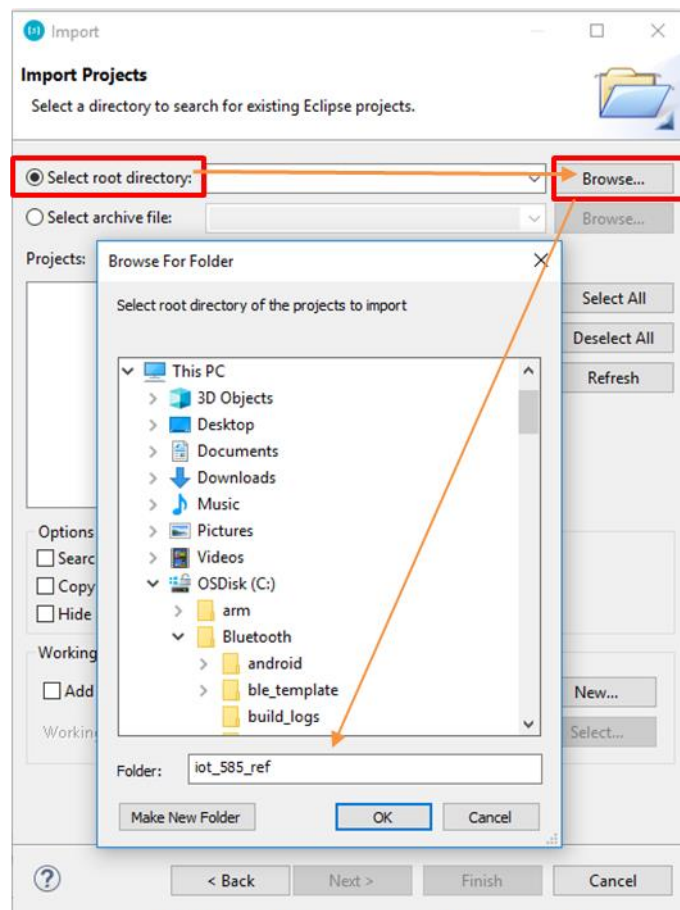

Figure 13: Select Project Root Directory
8. A window will appear and users should choose "**Browse**" next to "**Select root directory**", then select the root directory of v6.160.4.15 (Figure 13), and press **OK**.